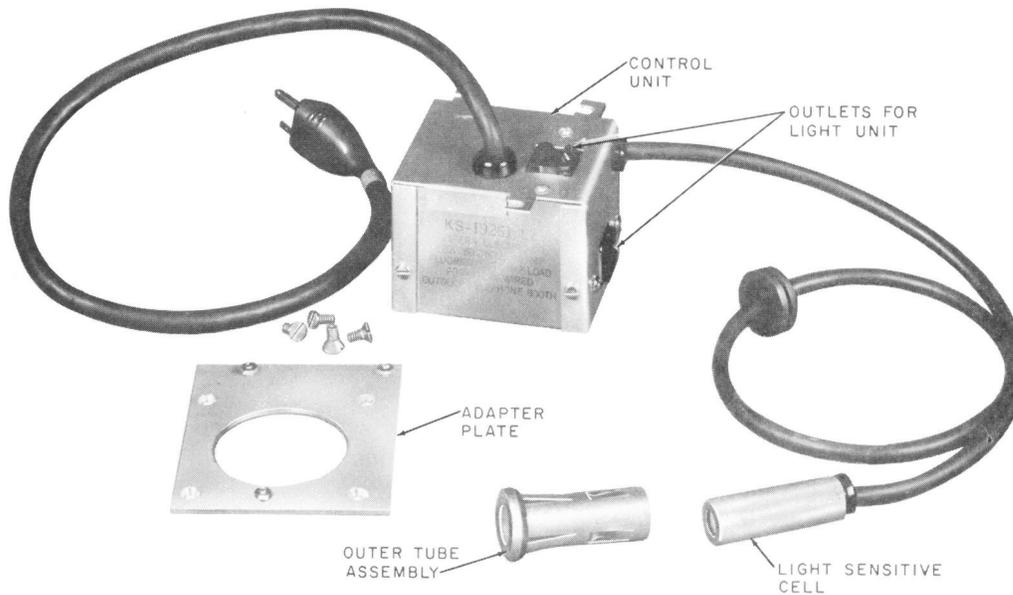

Fig. 2—KS-19261, List 2 Light Control Unit
2.04 The KS-19261, List 2 light control unit (Fig. 2) is used in outdoor booths equipped with light units other than a KS-19207 light and blower unit.
- (i) Place outer tube assembly (Fig. 2) through roof hole from outside until the tabs lock behind edge of hole (Fig. 7).